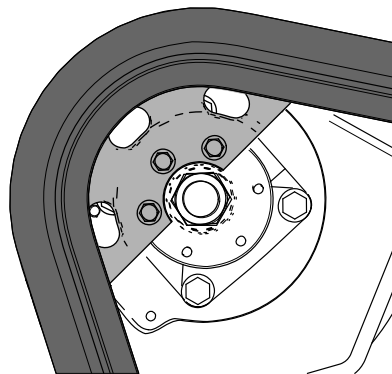

Figure 30
4. Move the traction control forward until the drive sprocket half engages with the track (Figure 30).